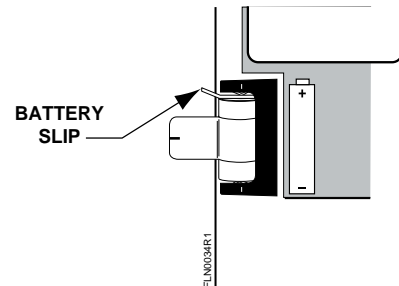

Figure 9. Battery with Mylar Slip.
4. Pull the mylar strip off of top of battery (Figure 9).